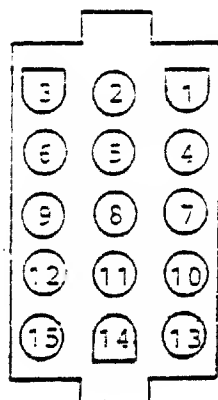

Figure 3-1
- (1) The DC power connector (P1) front view is shown in Figure 3-1. The P1 pin assignments are listed in Table 3-4.